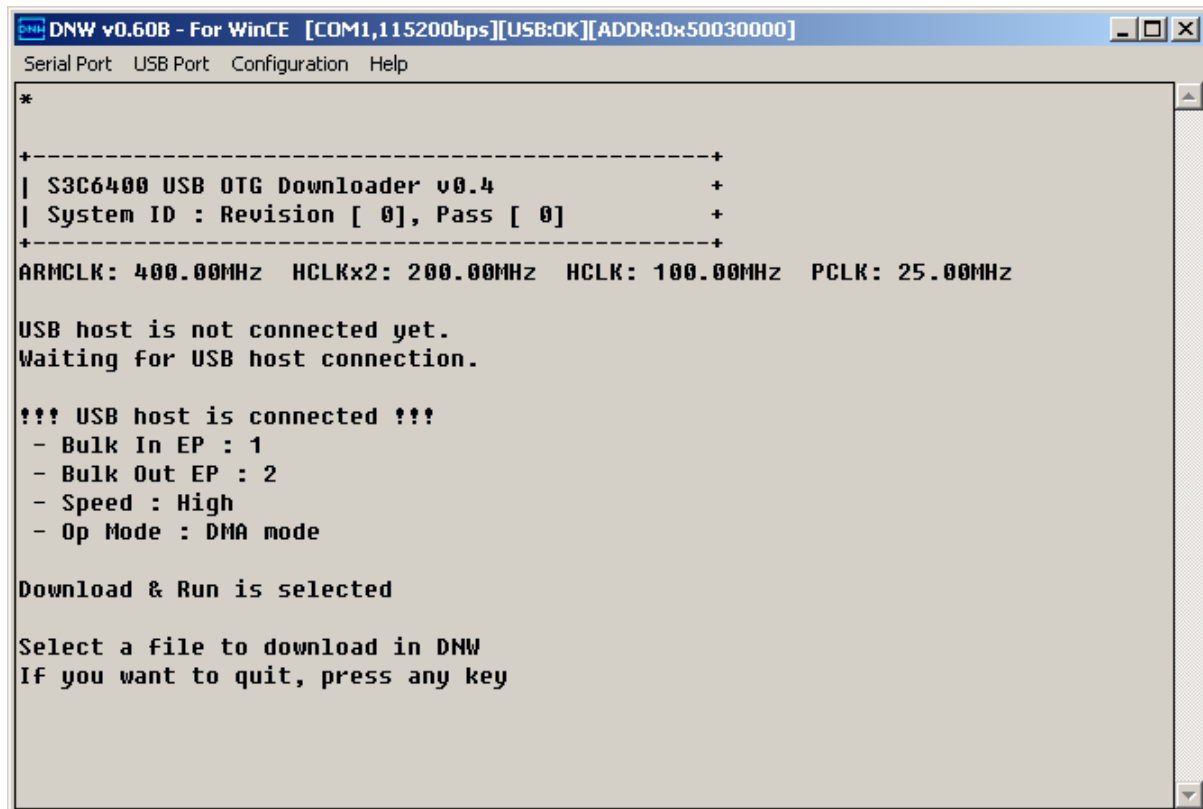

Figure 6-10 DNW Window after reset
13. Reset the board. DNW window appears as shown in figure 6-10.